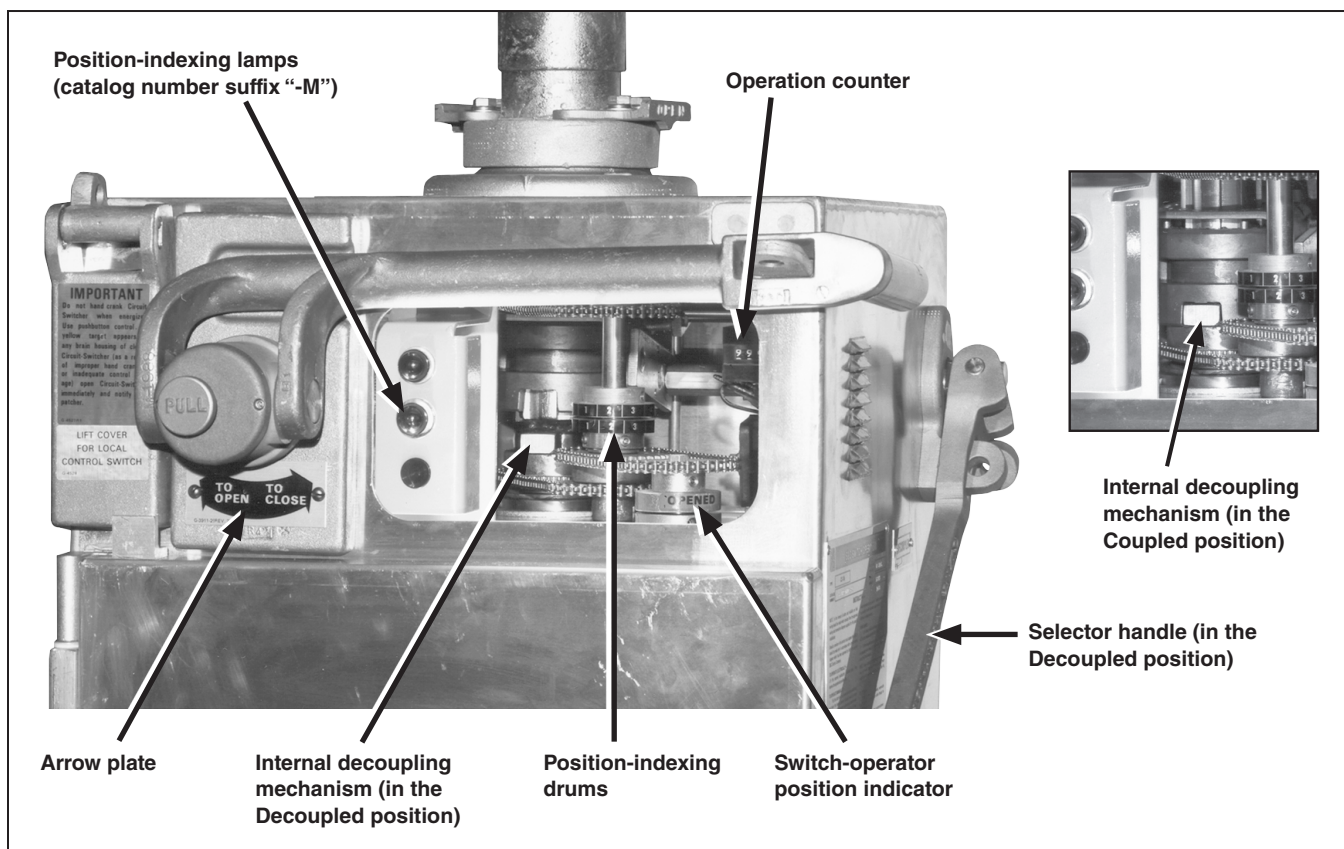

Figure 5. The internal decoupling mechanism viewed from the observation window.
- The switch-operator position indicator signals “Open” or “Closed” to indicate the switch operator has moved through a complete operation. Also note the POSITION INDICATING lamps, if furnished. See Figure 5 on page 11.
- STEP 1.** The switch-operator position indicator signals “Open” or “Closed” to indicate the switch operator has moved through a complete operation. See Figure 5 on page 11. Also check the position-indicating lamps, if furnished
- STEP 1.** Manually operate the switch operator to bring it to the same **Open** or **Closed** position as the high-voltage switch, as indicated by the switch-position indicator located on the output-shaft collar of the switch operator. The switch-operator position indicator, seen through the observation window, will show when the approximate **Open** or **Closed** position has been attained. See Figure 5.